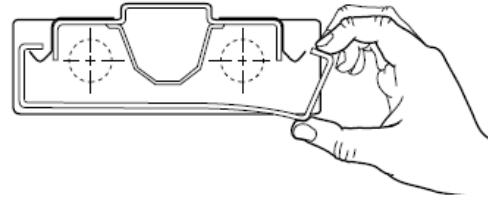

Figure 2
1. Remove fixture housing and diffuser from carton being careful not to scratch the diffuser. Bend diffuser outward at ends and lift it off of housing. **See Figure 2.**
9. Install diffuser by hooking one side of diffuser over turned-up hooks on end plates. Carefully bend diffuser and snap over turned - up hooks on opposite side of fixture. **See Figure 2.**